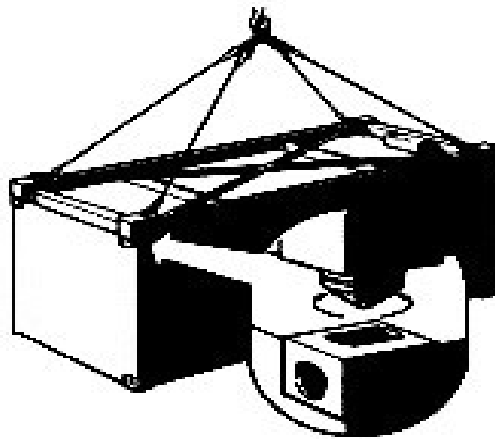

Figure 3-161
1. Ensure personnel check twist locks to make sure they engage and disengage (see Figure 3-161).